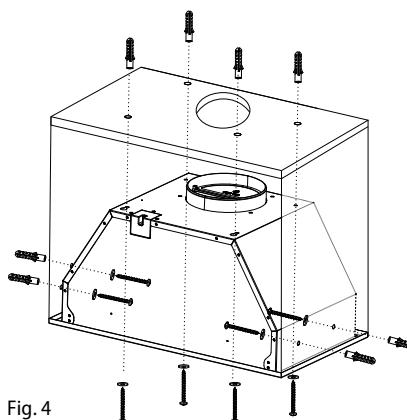

Fig. 4
3. Drill holes and attach the hood according to Fig. 4.